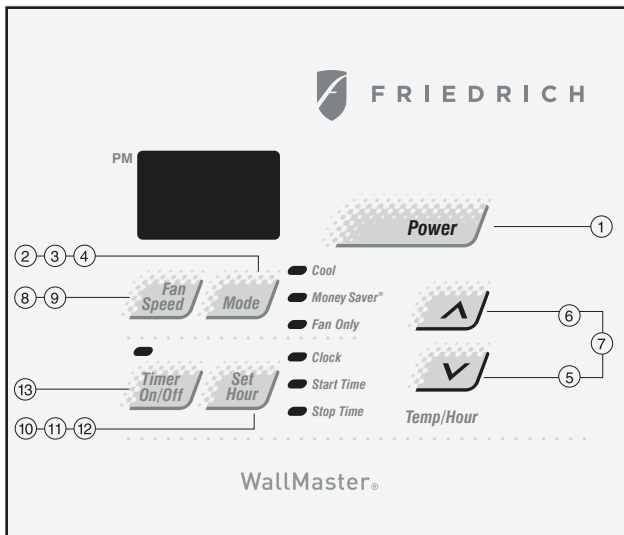

Figure 4: “WS” Cooling only models
Activate **Test Mode** by pressing at the same time, the **Mode** button and the **Temp/Hour**  $\checkmark$  button (see figures 4 and 5).
**Activating Error Code Mode:** Press the **TIMER On/Off** button (see figures 4 and 5). The **LED** for the **TIMER On/Off** will flash 1 bps (beats per second) while **Error Code Mode** is active. Pressing the **Temp/Hour**  $\wedge$  button will display “00”. Consecutive presses will scroll through all error codes stored. Press the **Temp/Hour**  $\vee$  button to see the reverse order of the error codes. When the end of the stored error codes is reached the temperature **Set Point** will appear. (Each error code is listed once)